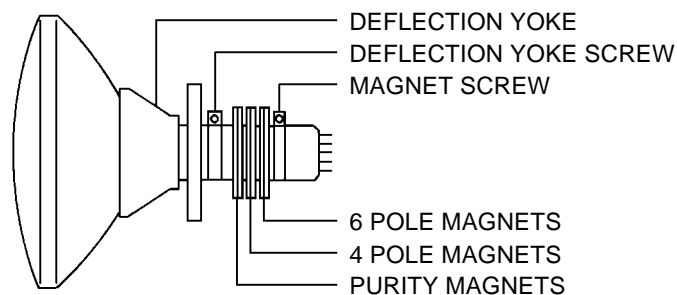

Fig. 4-1
1. Tighten the screw for the magnet. Refer to the adjusted CRT for the position. **(Refer to Fig. 4-1)**